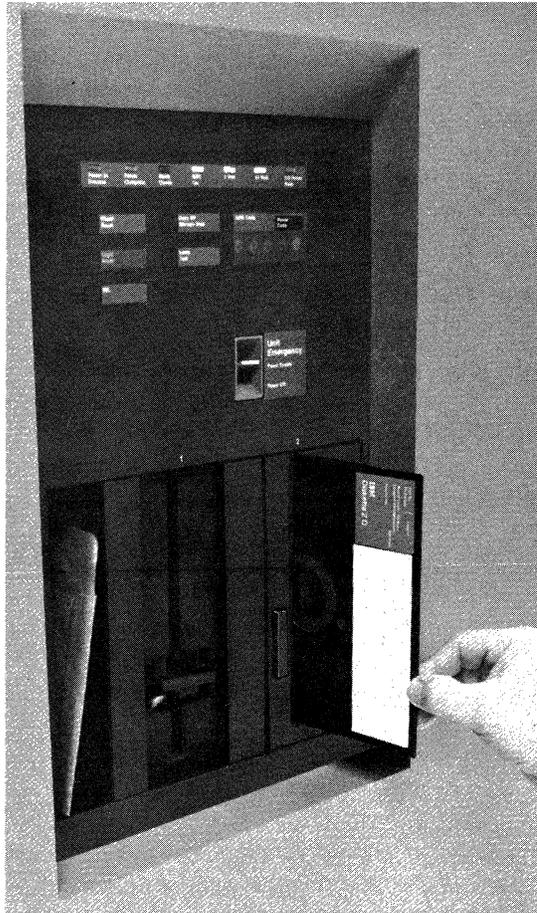

Figure 22. Installing Diskette Cartridge Into Drive
4. Put the new diskette into the drive (Figure 22).